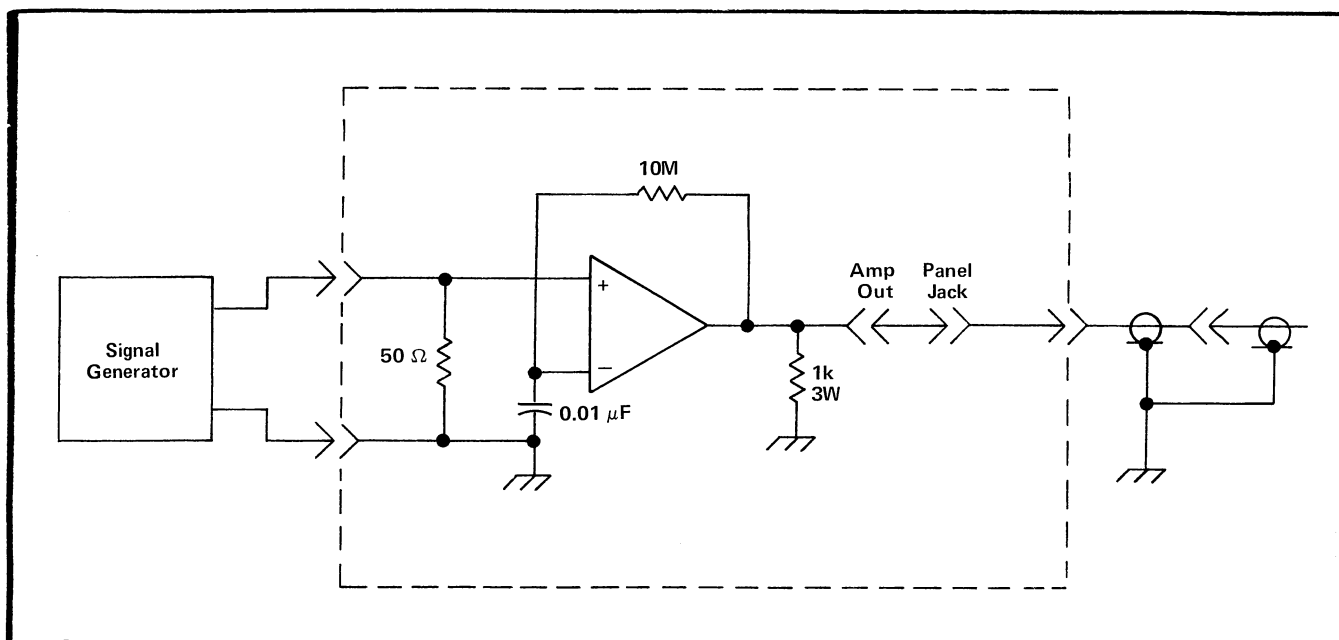

Fig. 5-4. Setup for checking Unity Gain Bandwidth.
a. Connect the Terminal Access Adapter as diagramed in Fig. 5-4.